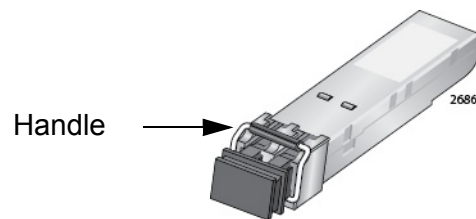

Figure 61. Handle on the AT-StackOP/0.3 and AT-StackOP/9.0 Transceivers
2. To install the transceiver in the S1 slot, position it with the handle on top, as shown in Figure 61. To install it in the S2 slot, position it with the handle on the bottom.